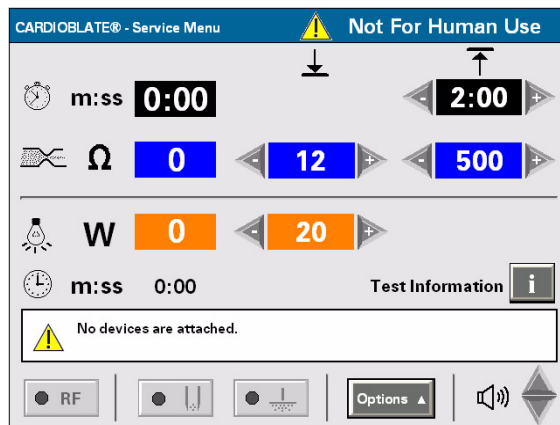

Figure 4. Service Menu screen
3. Turn on the generator via the power switch located on the rear of the generator. Once the generator completes its self-test, the Service Menu screen will appear (Figure 4).